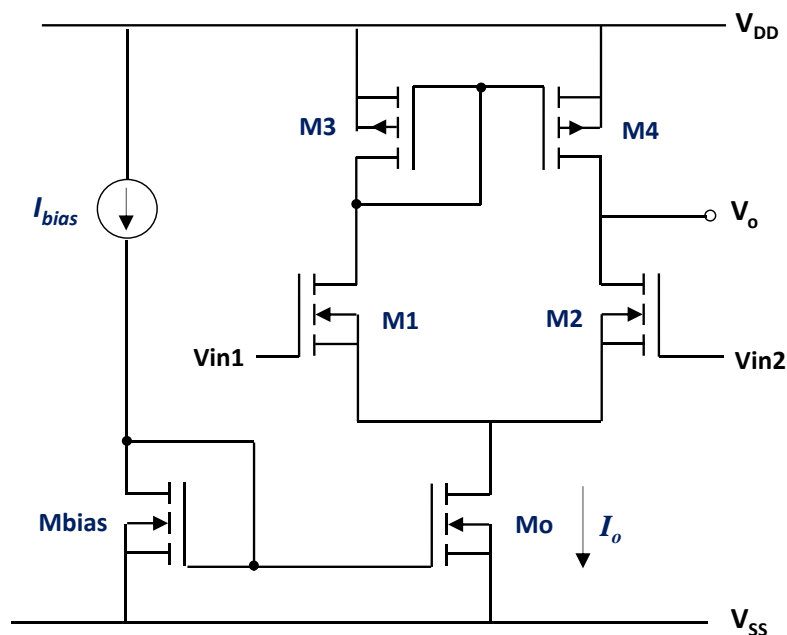

Fig. 1: Circuit design of a single-stage differential CMOS Op-amp.
Operational amplifiers (Op-amps) are key building blocks used in digital and analogue systems to increase the current, voltage or power of an input signal. The simplest single-stage Op-amp circuit design is shown in Fig.1, comprising of a:
Design and simulate the single-stage Op-amp in Fig.1 with a voltage gain, A_v of greater 100 (≥ 40 dB), gain-bandwidth product GB of 1 MHz and phase margin of 60° (at unity gain or 0 dB).
1. Determine the **value of I_o** to satisfy the provided *slew rate* (SR) for a known *load capacitance* (C_L) and *power dissipation* (P_d). In Fig. 1, consider a load capacitor (C_L) connected at the output, charging through M4. The charging current can be given as,
Here I_o is the DC current needed to bias the circuit i.e. flowing through M_o . Note, the current flowing through the left and right branches of the differential amplifier in Fig.1 is given as $(I_o/2)$ respectively, if the aspect ratios of M1 and M2, and, M3 and M4 are matched respectively.
2. Determine the **aspect ratios of M1 and M2** to satisfy the required *gain-bandwidth product*. Consider the small-signal circuit of one half of differential amplifier circuit e.g. right-hand side in Fig. 1 as shown below.
3. Determine the **aspect ratios of M3 and M4** to satisfy the *maximum input voltage*, $ICMR(+)$. Consider one half of the differential circuit i.e. left-hand side in Fig. 1 as shown on the side. To ensure **M1 is saturated**, we require,